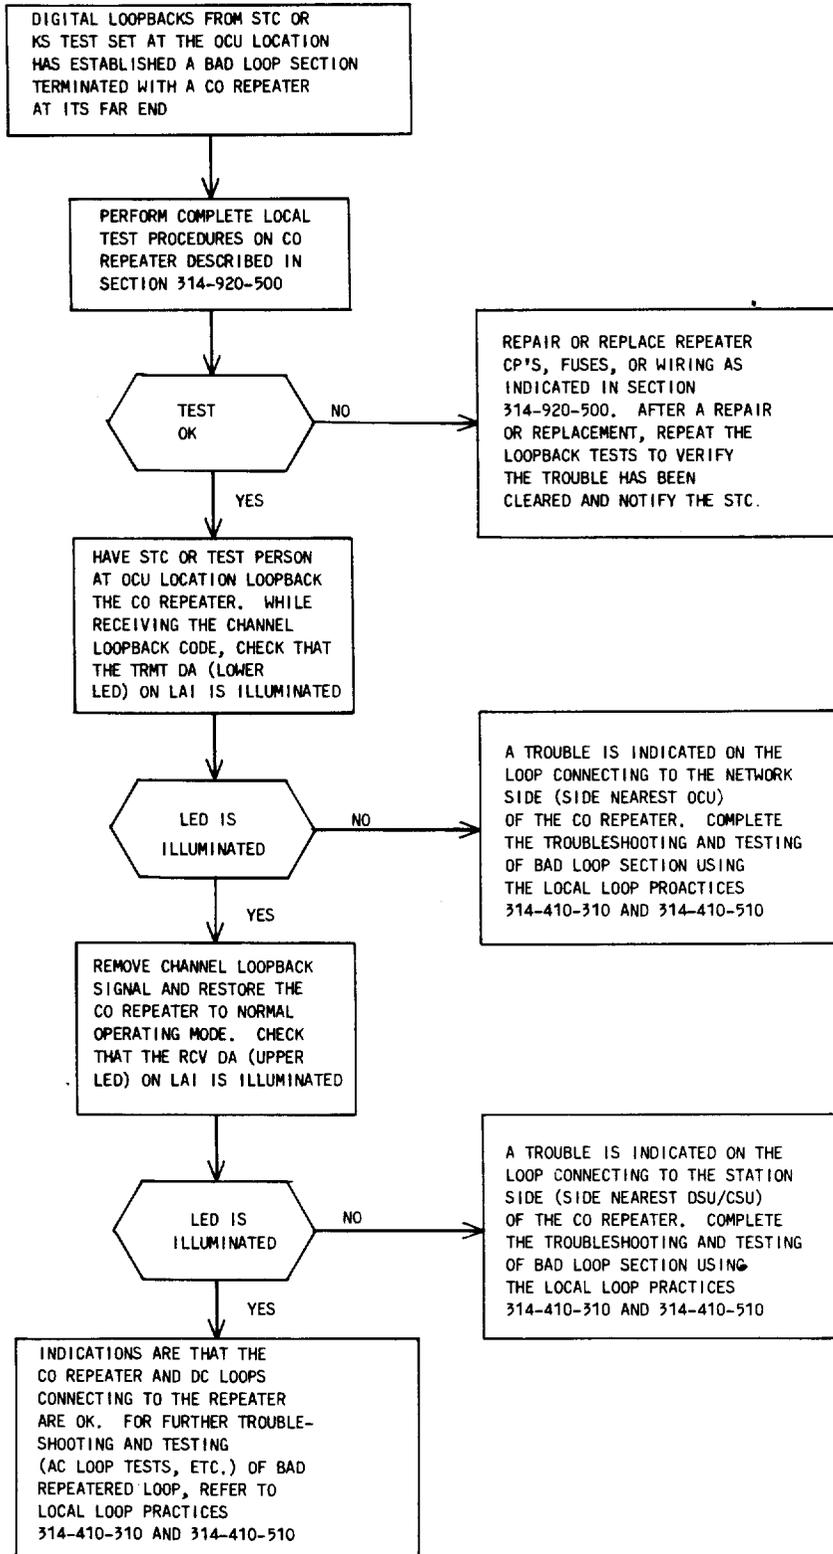

Fig. 2—Flowchart for Troubleshooting Procedures
**3.01** Figure 2 is a flowchart showing the suggested troubleshooting procedures for maintenance of the CO repeater. For maintenance and testing procedures of the OP repeater, see Section 640-251-107.